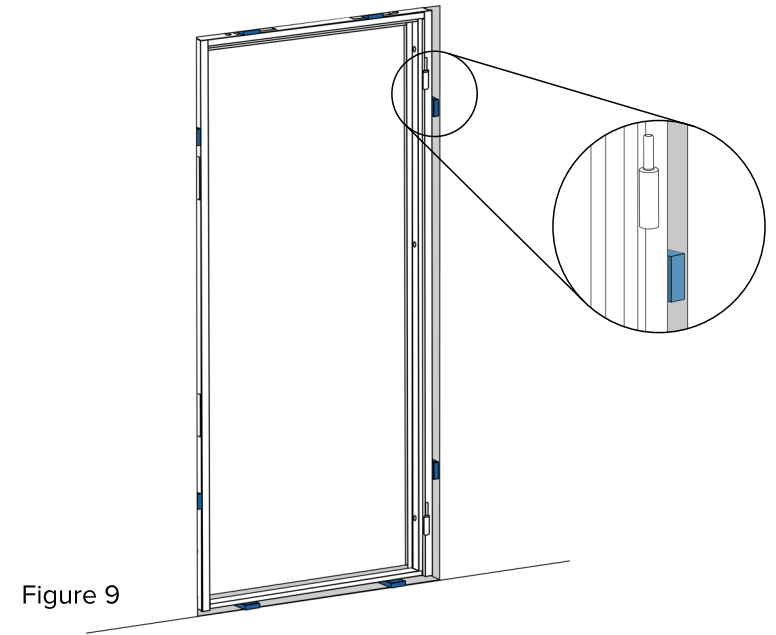

Figure 9
3.4. Fasten the door frame with wedges in the doorway to fix the clearances with wooden wedges. Wedges are preferably installed between the door frame and the doorway wall from above and below (figure 9), so as not to deform the middle part of the door frame.